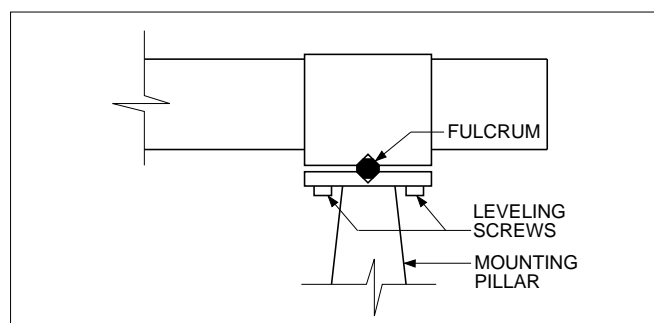

Figure 4 Leveling the Telescope and Collimator
1. The telescope and collimator pivot about a fulcrum on their respective mounting pillars (see Figure 4). Use the aluminum rod provided with the accessory equipment to adjust the leveling screws. Loosen one as the other is tightened until the unit is level and secure.